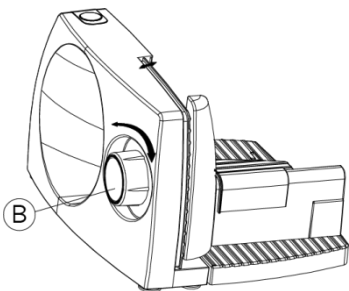

fig.5
3. Check that the On/Off switch is set at the off (0) position.
5. Turn the adjustment knob (fig. 5) to select the desired slice thickness. Turning the knob will move the position of the face plate. Turn the knob clockwise for thicker slices and anticlockwise for thinner slices. The thickness can be set to a specific width by aligning the edge of the face plate with the thickness gauge marked on the top of the slicer.